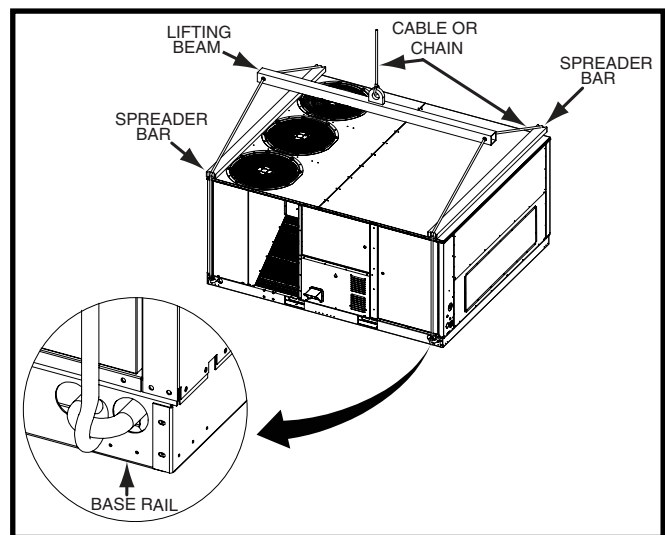

Figure 4. Rigging & Hoisting
- Spreader bars are required to protect the unit and ensure even loading. See Figure 4.